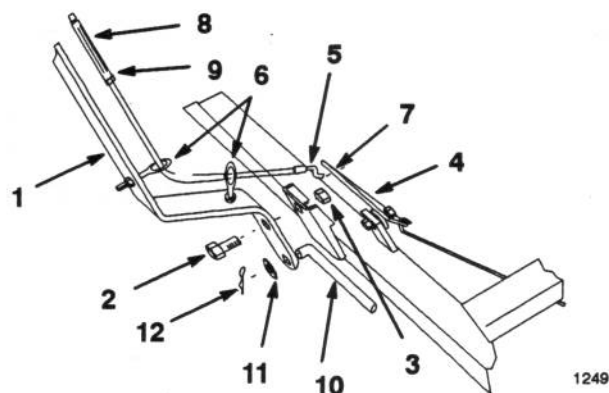

Figure 5
2. Attach index lever from kit to frame bracket with previously removed bolt and nut (Fig. 5).
3. Attach index plate from kit to frame with previously removed bolt and nut (Fig. 5).
4. Route cable through eyelets and attach "Z" ends to outer holes of index plate (Fig. 5) and release lever.
5. Adjust turnbuckle so the index pin is pulled out of channel when the release lever is squeezed, for easy side-to-side movement (Fig. 5). Tighten jam nut securely.
6. Attach control rod to index lever with washer and hairpin cotter. (Fig. 5).